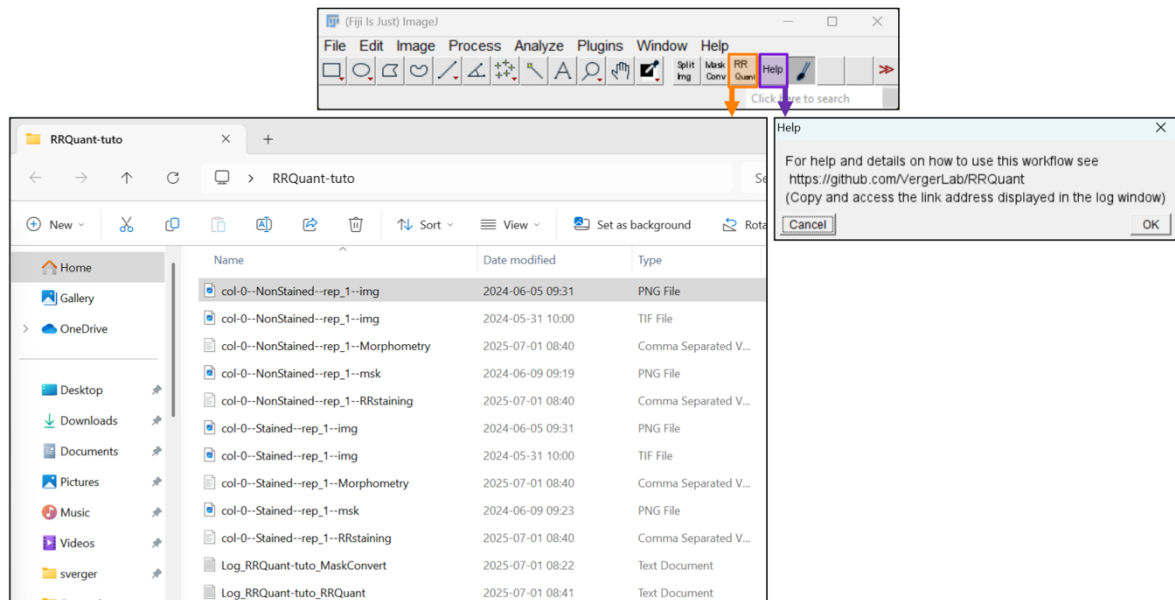

Figure 6: Quantification
- Click on the RRQuant button in Fiji to run it (orange in Figure 6). Data will be automatically generated in batch.